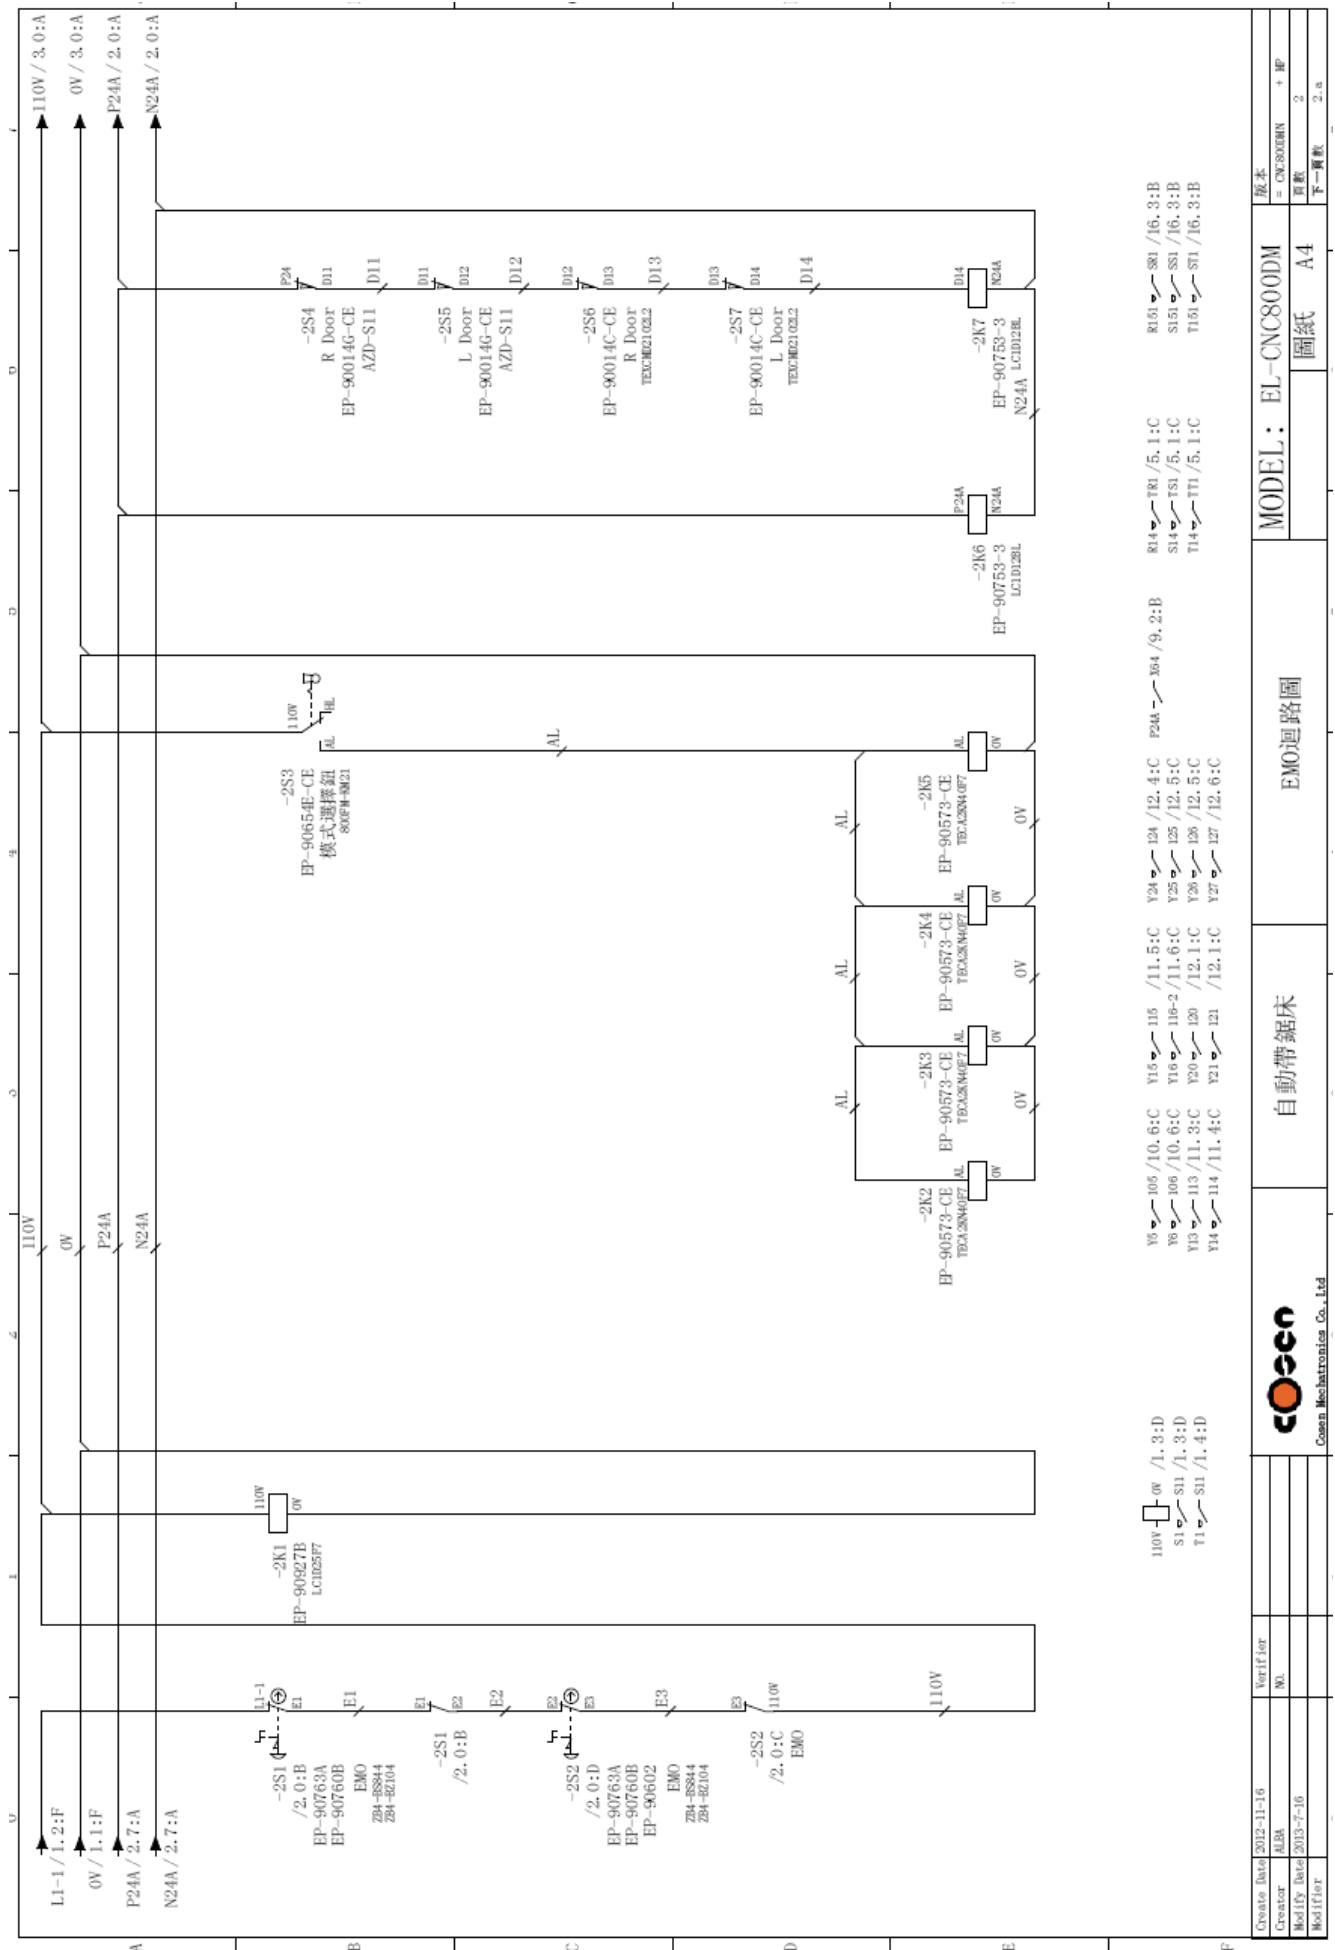

Fig. 5-2 EMO circuit diagram (CE)
- Fig. 5-2 EMO circuit diagram (CE)